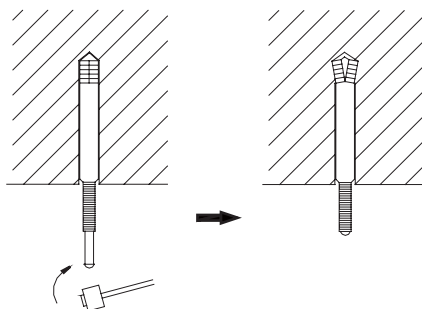

Figure 1-1-1
- ◆ Insert a M10 expansion bolt into the hole. Drive a nail into the bolt. Refer to the profile dimensions drawing of the indoor unit for the distance between the holes. Refer to Figure 1 for the installation of the expansion bolt, as shown in Figure 1-1-1.